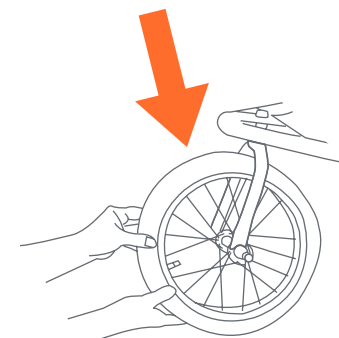

Fig. 20
- 20)** • Lift front end of the stroller up and pull down on wheel to ensure its attached (Fig. 20). The wheel should not be loose or come off.